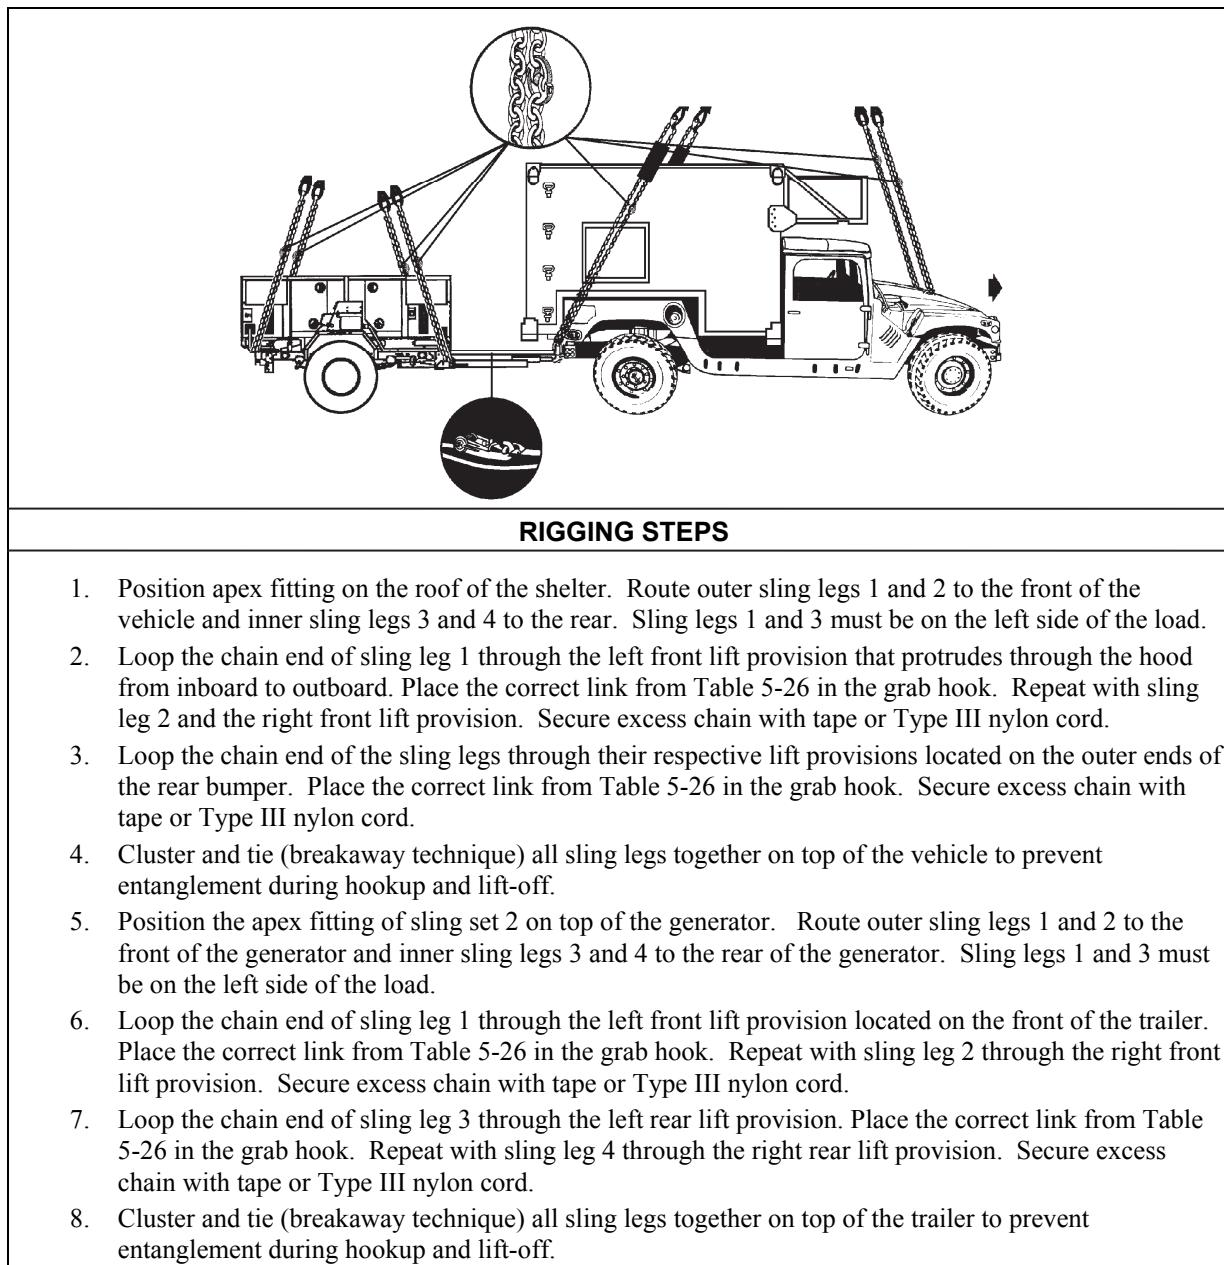

Figure 5-26. M1097 (HMMWV) with Meteorological Measuring Set in LMS Shelter and AN/MJQ-35 Power Plant on M116A3 Trailer
- **Rigging.** Rig the load according to the steps in Figure 5-26.